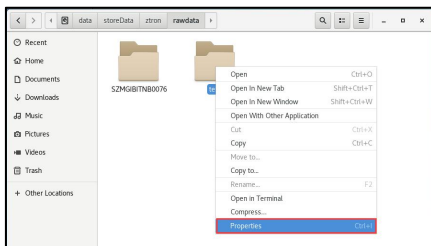

Figure 3-19 Step one for folder permission modification
- 3) After the data transmission is completed, you need to modify the permissions of copied folder. Right-click the transferred folder `data` on the server, and click **[Properties]** (Figure 3-19):